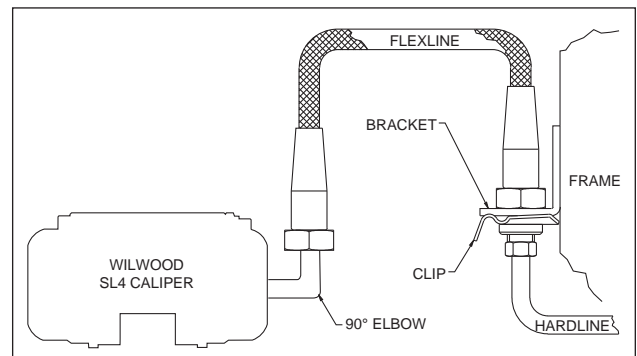

Figure 4. Brake Line Diagram
- Install one shim (11) over each stud (10) on the radial mount bracket (1). Slide the caliper (7) in place over the studs and rotor and install the washer (9) and lock nut (8) to hold the caliper in place. The caliper bleed screws should be pointing up. Snug the lock nuts (8) and check that the rotor (3) is centered in the caliper (7). Add or subtract .015" shims (2) as necessary between the caliper mount bracket and the caliper mount bosses on the upright assembly to center the caliper.
- Remove the caliper center bridge pad retainer bolt, nut, and tube from the caliper. Slide the brake pads (12) into place. They should install easily without interference. Check that the outside radius of the brake pad is aligned with the outside diameter radius of the rotor face. Add or subtract shims (11) between the caliper and mount bracket to gain the proper alignment. Reinstall the center bridge pad retainer tube, bolt, and lock nut. The locknut should be snug without play in the bolt or tube. Be cautious not to over tighten.
- Once all clearances have been checked, remove the wheel, caliper, hat, and rotor from the axle flange. Secure the caliper mounting bracket (1) to the axle flange body using red *Loctite*® 271. Torque the bolts to 65 ft-lbs. Reinstall the hat and rotor assembly and again use several lug nuts to hold it in place. Lubricate caliper mounting studs and nuts with lightweight oil, reinstall the caliper, torque the caliper nuts (8) to 30-35 ft-lbs.
- Install Wilwood's optional stainless steel braided flexline hose kit, part number 220-8177 for C-5, 220-9101 for C-6 (NOT included in kit), see Figure 4. **NOTE:** OEM rubber brake hoses generally cannot be adapted to Wilwood calipers. The caliper inlet fitting is a 1/8-27 NPT. The preferred method is to use steel adapter fittings at the caliper, either straight, 45 or 90 degree and enough steel braided line to allow for full suspension travel and turning radius, lock to lock. **Carefully route lines to prevent contact with moving suspension, brake or wheel components.** Wilwood hose kits are designed for use in many different vehicle applications and it is the installer's responsibility to properly route and ensure adequate clearance and retention for brake hose components.